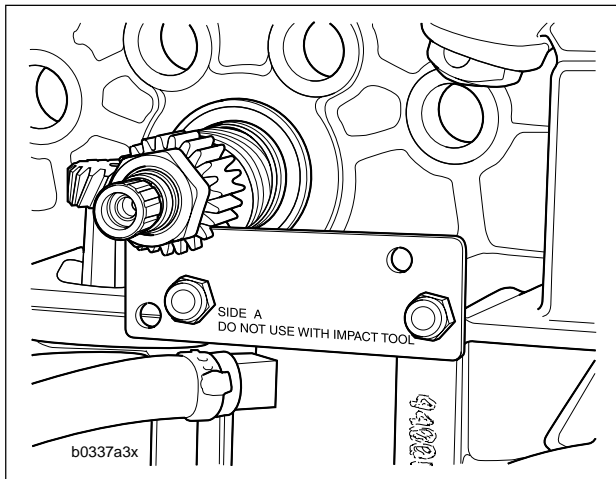

Figure 3-69. Crankshaft Locking Tool (HD-43984)
- b. See Figure 3-69. Install CRANKSHAFT LOCKING TOOL (Part No. HD-43984) to gearcase with "Side A" facing out, over pinion shaft, with two screws.